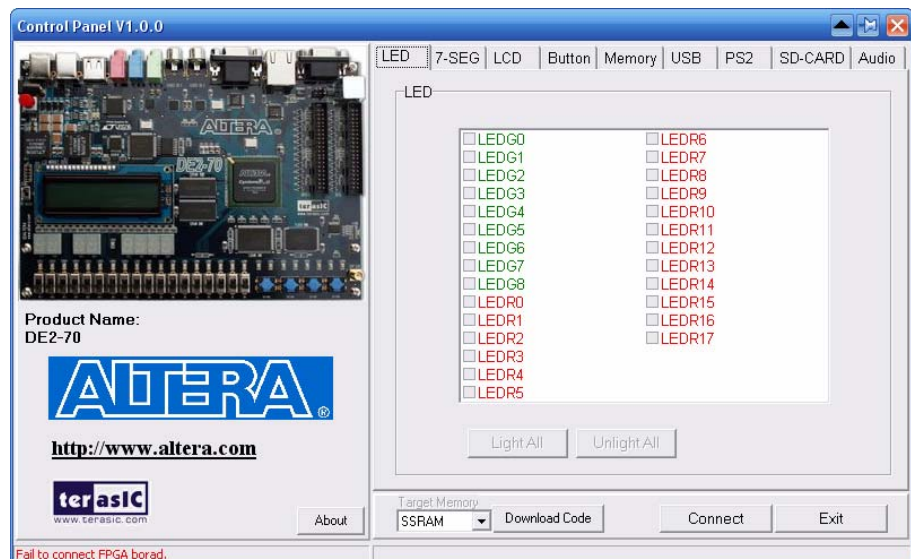

Figure 2.1. The control panel window.
4. Click **Download Code** button as shown in Figure 2.1 and the control panel is ready for use.